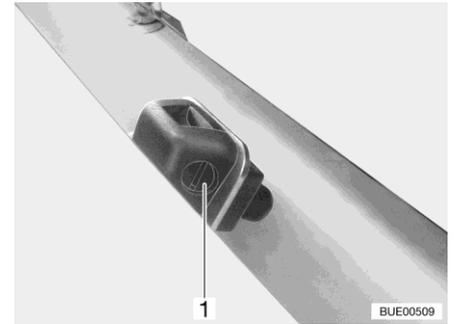

Fig. 53 Washer nozzles (variant 2)
- Use a suitable screwdriver to turn the adjusting screw (Fig. 53,1) until you reach the desired position.